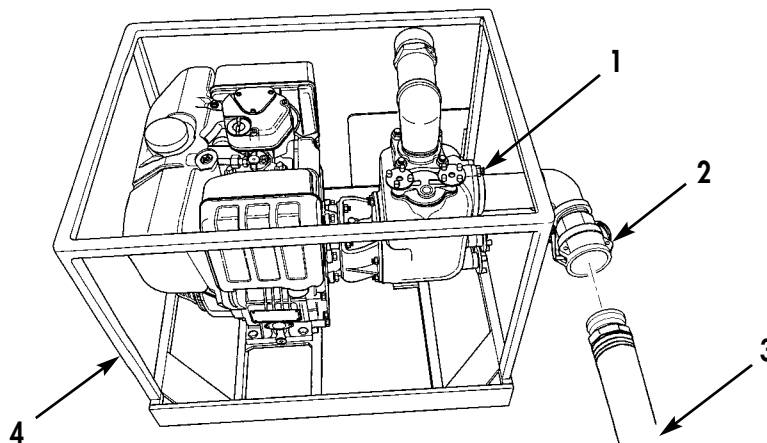

Figure 4. Suction Hose Connection.
8. Position pump unit (Figure 4, Item 4) approximately 15 ft (4.6 m) from drums with FQD coupling (Figure 4, Item 1) facing drums.
9. Remove plug and cap, and connect 2 in. (51 mm) DIA x 10 ft (3 m) long suction hose assembly (Figure 4, Item 3) to FQD coupling (Figure 4, Item 2) on suction port (Figure 4, Item 1) of pump (Figure 4, Item 4).